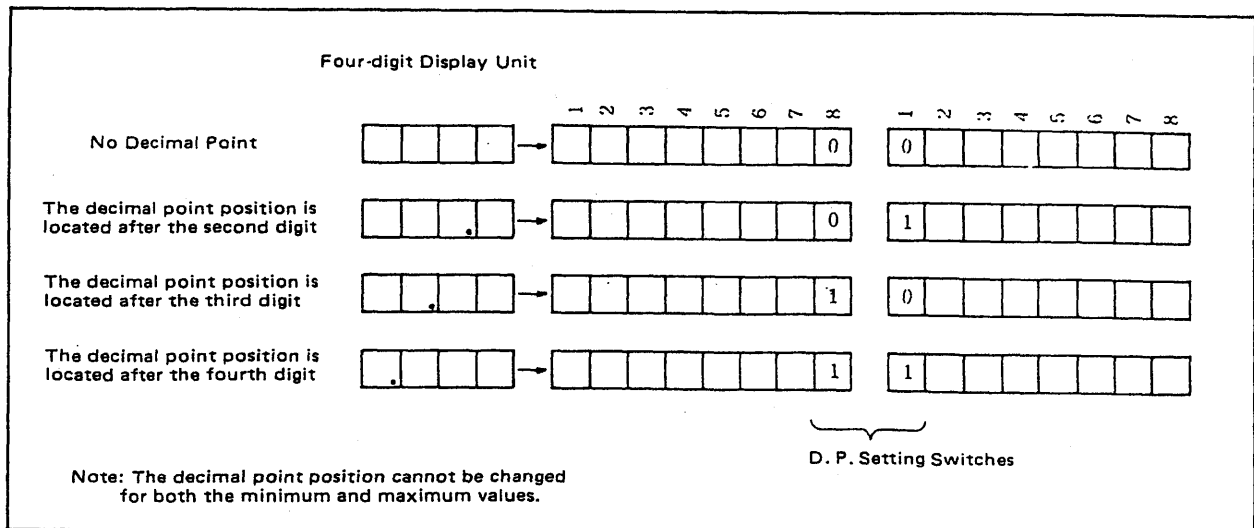

Figure 6-2-8. Decimal Point Position Setting.
Set No. 8 of SW1 (L) and No. 1 of SW2 (R) as follows according to the decimal point position required. (See Figure 6-2-8).